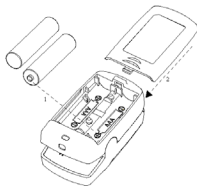

Figure 2 Battery Installation
1. Refer to Figure2, insert two AAA size batteries into the battery compartment properly.